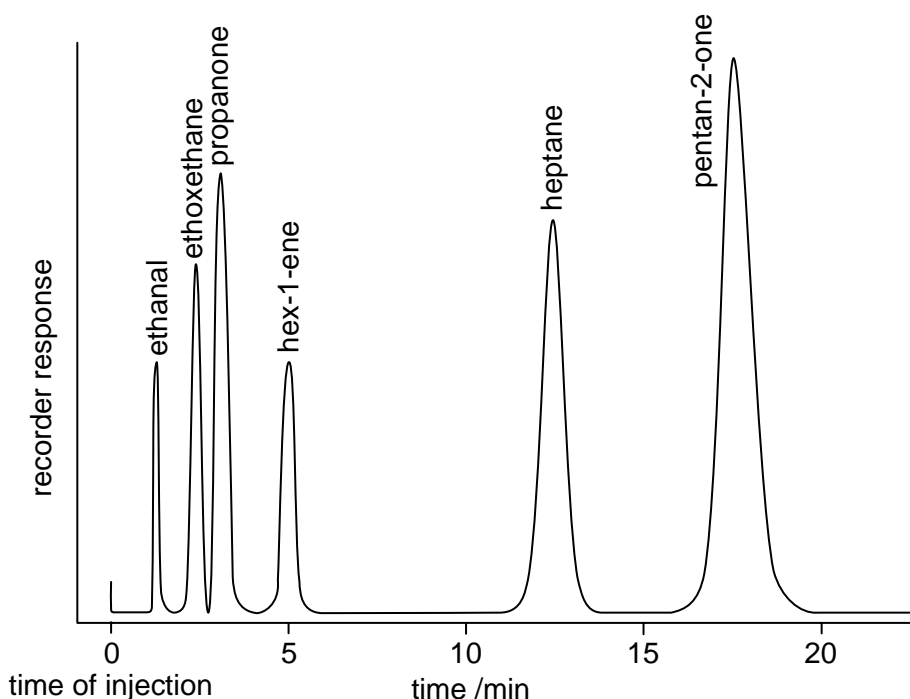

Figure 2.35 – a GLC chromatogram of a mixture of organic chemicals
Figure 2.35 shows a GLC chromatogram of a mixture of organic chemicals.
**SAQ 11.** (a) Referring to Figure 2.35, which compound is present in the largest amount?